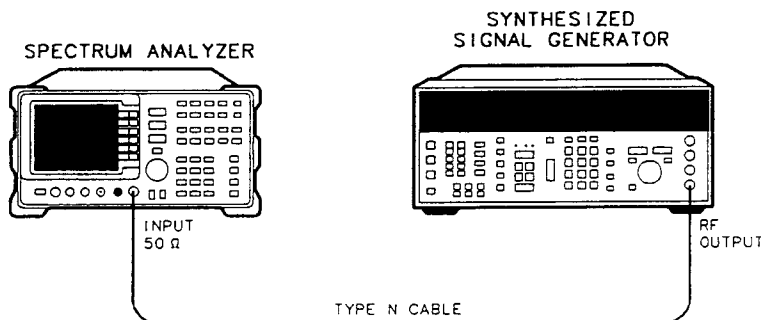

Figure 3-12. Noise Sidebands Test Setup
1. Connect the equipment as shown in Figure 3-12.